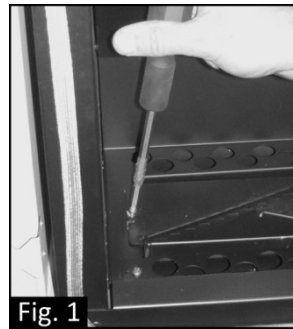

Fig. 1
- 14.1** First you need to remove the burner by removing the screw holding it in place on the left hand side of the firebox (Fig. 1).